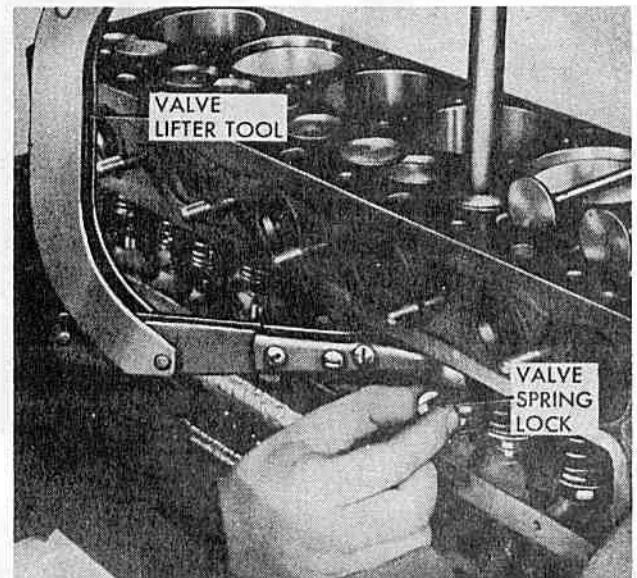

FIG. 163
**CHAMPION AND COMMANDER** After removing the cylinder head, remove the valve lifter tension springs, and with a valve spring compressor remove the valve spring seats or locks (see Fig. 163). Then remove the valves from the engine block, and using a large screw driver or similar tool, remove the valve springs and retainers (with dampers on the Commander).